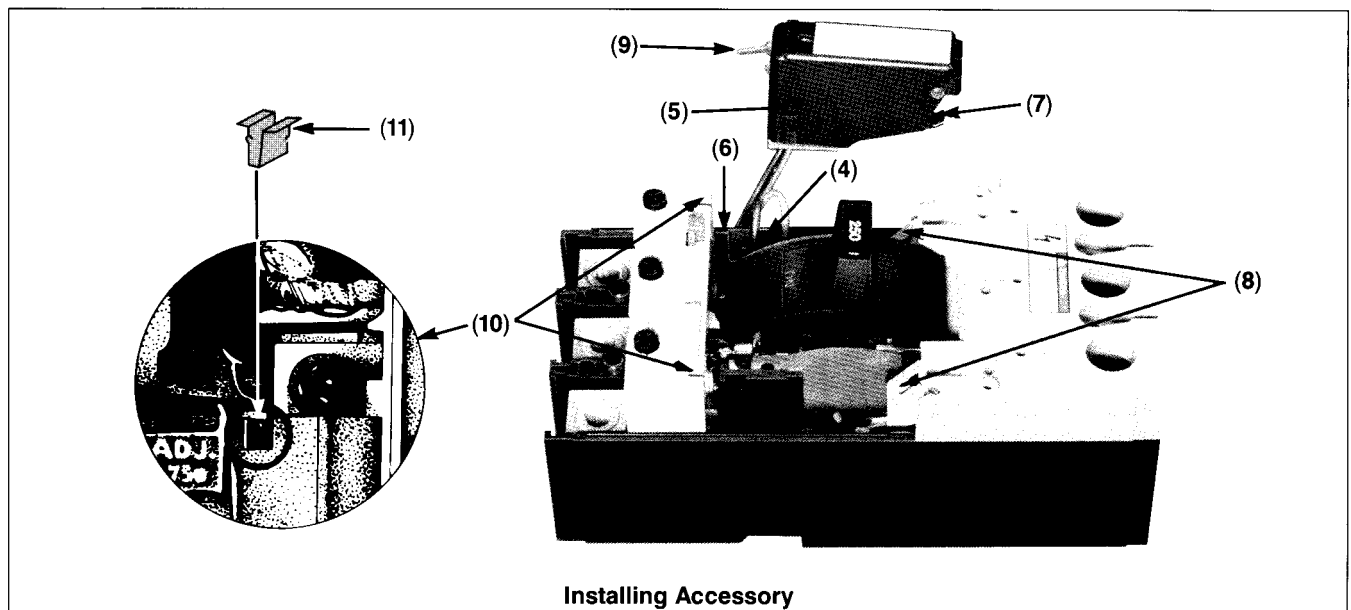

Figure 3
- A. Feed accessory leads down and through $1\frac{5}{16} \times \frac{5}{32}$ in. elongated opening (4) to bring leads out of bottom of circuit breaker (Figure 3). NOTE: Leads must be brought out in the same order as they exit wire retainer of accessory case.
- B. Accessory is located in circuit breaker by two ribs (5), one on each side of accessory.